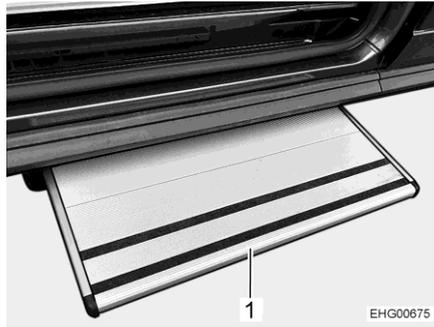

Fig. 2 Entrance step
- Carefully and slowly push in the entrance step (Fig. 2,1) by hand.